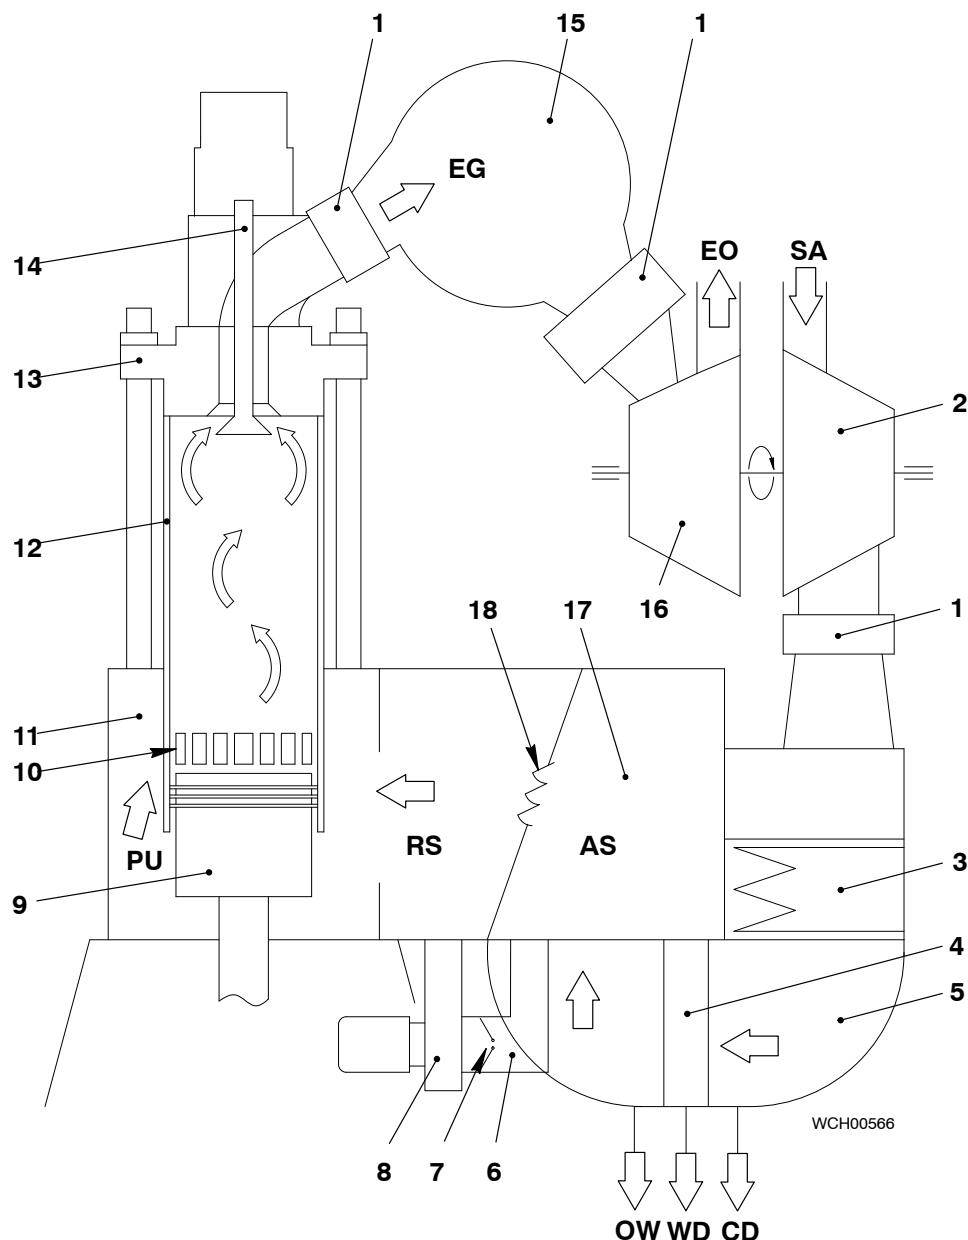

Fig. 1: Schematic Diagram – Turbocharger Operation
Exhaust gas (EG, Fig. 1) from the cylinders collects in the manifold (15). The exhaust gas moves the turbine (16), then flows out through the exhaust gas outlet (EO) to the exhaust system of the vessel. The exhaust gas turns the turbine and the compressor (2), which is attached to the same shaft. The compressor pulls fresh air (FA) from the engine room through a filter/silencer.